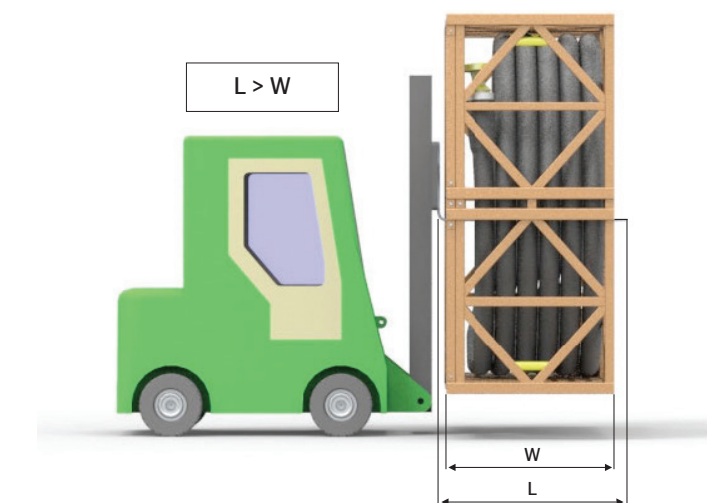

Fig. 14 Lifting steel crate by forklift
- Using a forklift truck: Lift up the crate under the horizontal stiffener in the middle of the crate, see Fig. 14. The forklift truck's forks must be longer than the width of the crate ($L > W$).